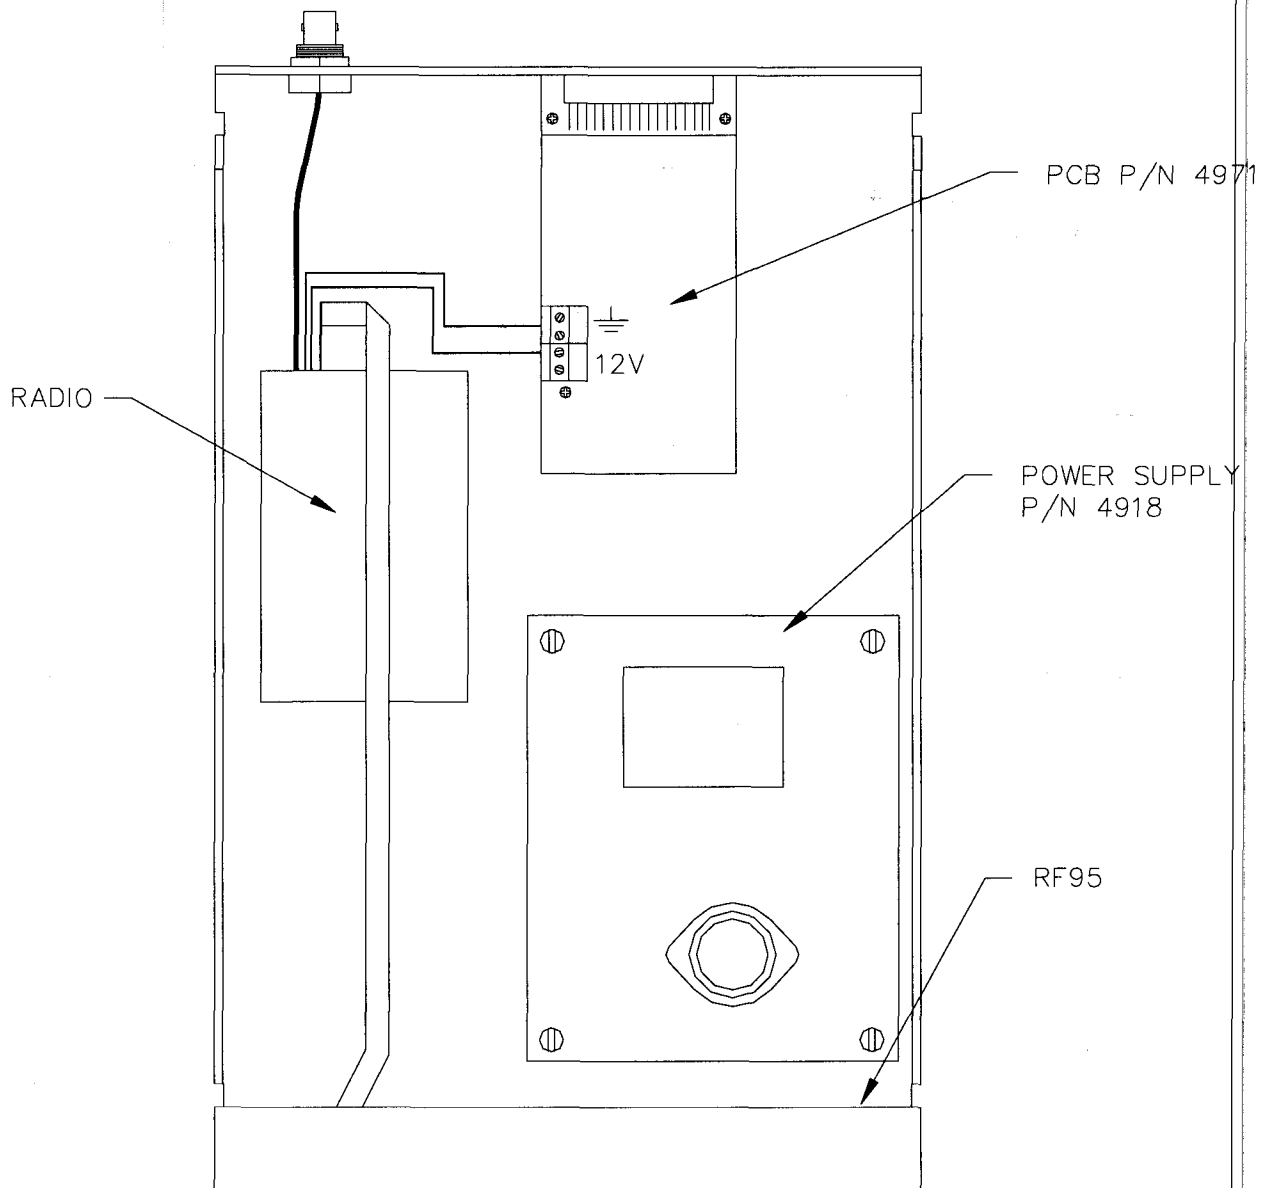

FIGURE 3-8. Top View of the RF232 Base Station
2. Lift the cover off the RF232 and locate the power supply (P/N 4918) as shown in Figure 3-8.